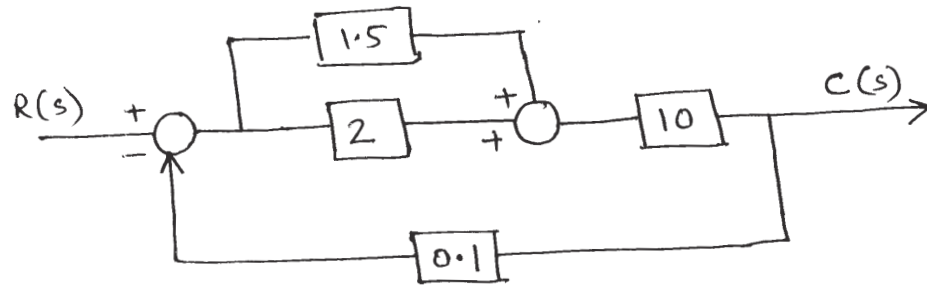

Fig. 1.
- Q3) a)** Determine the transfer function of the system shown in fig.1 [6]